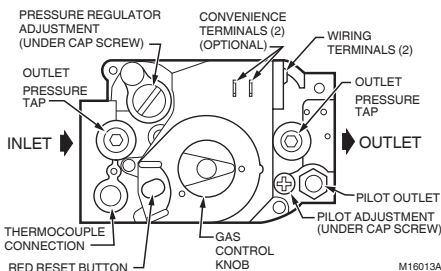

Fig. 1. Top view of gas control.
2. Remove the regulator cap screw and pressure regulator adjusting screw. See Fig. 1.
6. Connect the pipe to the gas control inlet and outlet. Use a wrench on the square ends of the gas control. If an adapter is used, place the wrench on the adapter rather than the gas control. Refer to Fig.1 and 6.
3. Unscrew the compression fitting from the pilot out-let (Fig.1). Slip the compression fitting over the tubing and slide out of the way.
- Connect the control circuit to the gas control terminals. See Fig.1 and 9.